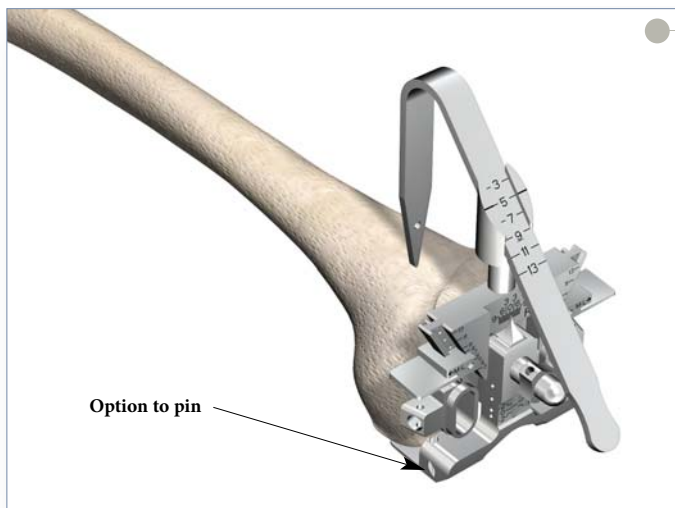

Figure 12
- ▶ Adjust the Sizer to the desired degree of external rotation and position the instrument flush on the flat distal femur, sliding the feet of the Sizer under the posterior condyles (Figure 12). Note that the medial lateral width of the implant can be assessed by referencing the width of the anterior portion of the sizer at each implant size. If desired, rotation can be further adjusted by using the Modular Handles to reference and parallel the epicondylar axis. Tighten the locking knob.
**Note:** Option to pin (Figure 12).